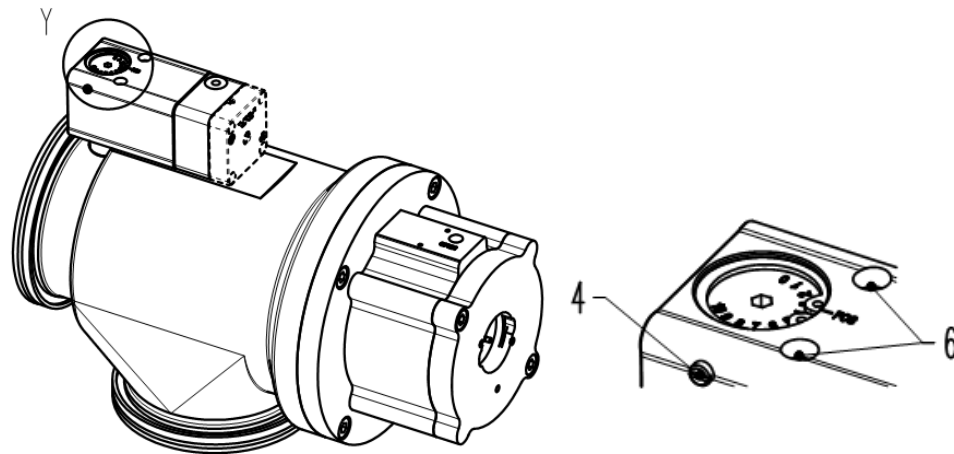

Figure 6-3
1. Detach the soft-pump valve from the main valve by removing the 2 screws (6) «Figure 6-3».
5. Remove setscrew (4) and clean it with alcohol (exceptional «Figure 6-3» on page 18).
6. Remove circlip (5) and take out the setting piece (3) by pushing it from the vacuum side.
10. Mount lubricated O-rings (8, 10) to the setting piece (3).
11. Insert setting piece (3) and circlip (5).